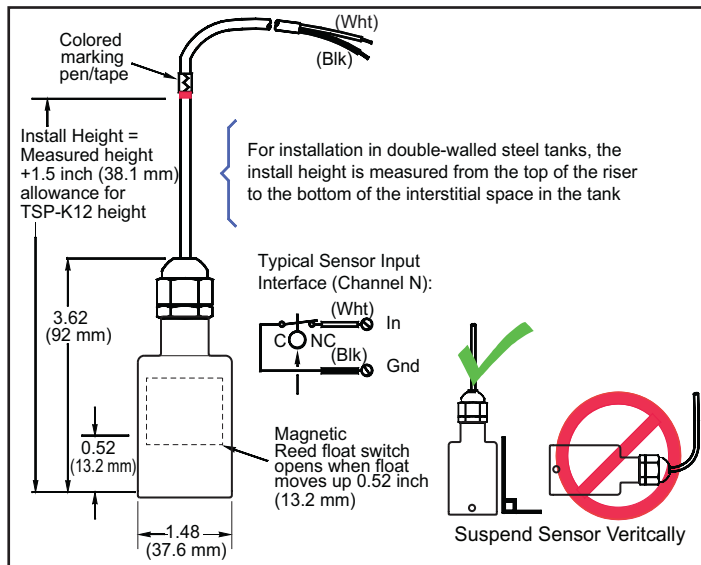
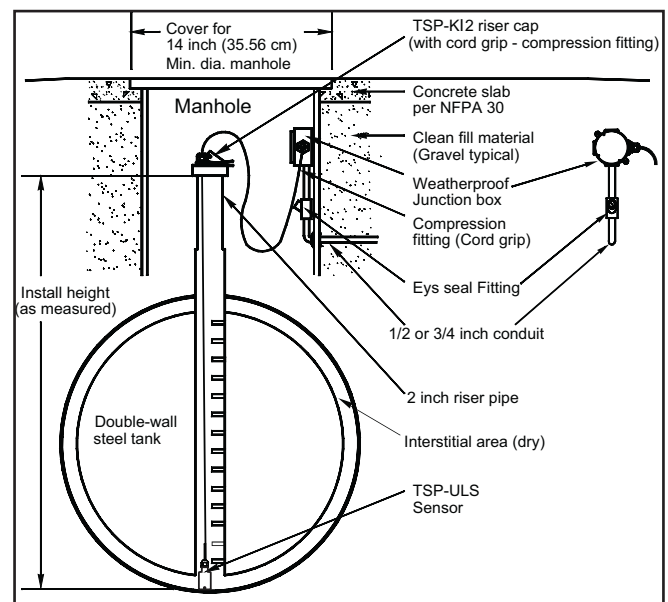

Figure 1: TSP-ULS Dimensions
Figure 2: Installation in Double-Walled Steel Tanks
The sensor is supplied with electrical connectors, 25 feet of cable, and a cord-grip fitting (see diagrams). The TSP-ULS uses magnetic-float/reed-switch technology (the sensor must be suspended vertically (See Figure 1) so the float can rise freely with the level of a liquid).
When the float rises more than 1/2 of an inch, the magnetically sensitive reed switch will open (see internal float in Figure 1). An open circuit is recognized as an alarm-condition at the intrinsically safe (I.S) leak detection circuits of the FFS (Franklin Fueling Systems) ATG console.
- * Riser pipe – 2 inch diameter (OD), threaded at one end (NPT-14) with all rough edges removed/deburred from the inner edges.
* = Needed for installation in UST interstitial areas (Figure 2)
4. Interstitial installation – see Figure 1 & 2, measure the INSTALL HEIGHT needed and add 1.5 inches = total height. Mark the total height on the sensor cable as shown in Figure 1, pull the cable through the TSP-K12 Riser Cap and cord-grip until the mark shows at the top of the cord grip fitting. Tighten the fitting and lower the sensor into the interstitial area of the tank as shown in Figure 2.